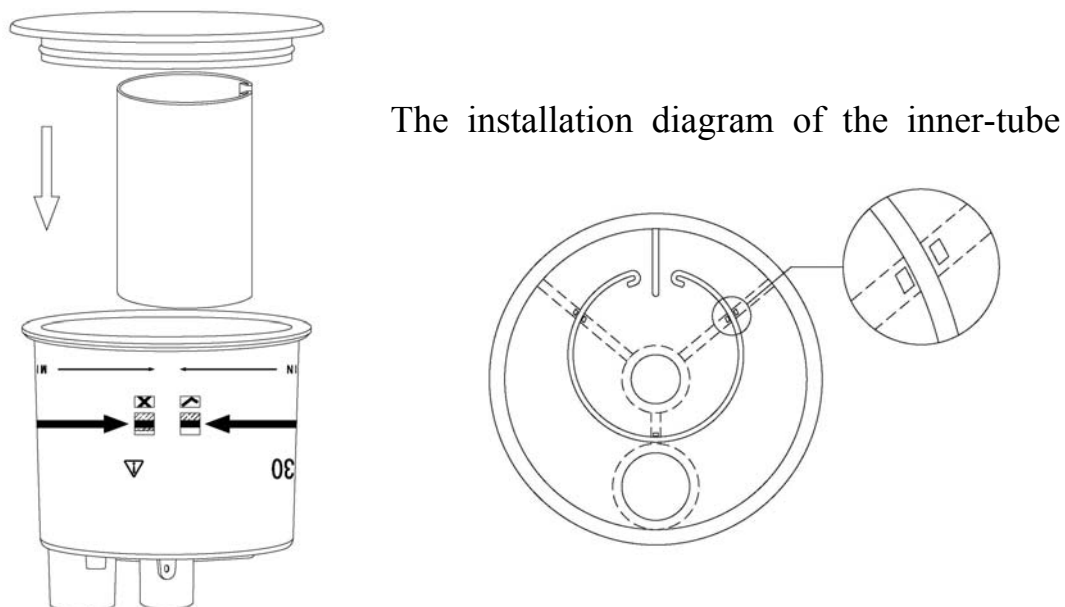

Fig 7-1
(1) Apart the chamber base and humidification cup after holding them with two hands respectively. Or use the small screwdriver to prise the humidification cup out lightly along the edge of the chamber base to make them apart.
(2) Put inner-tube correctly after cleaning and drying. Press the humidification cup to make the chamber base to the right position. (The method is shown in Fig 7-1)